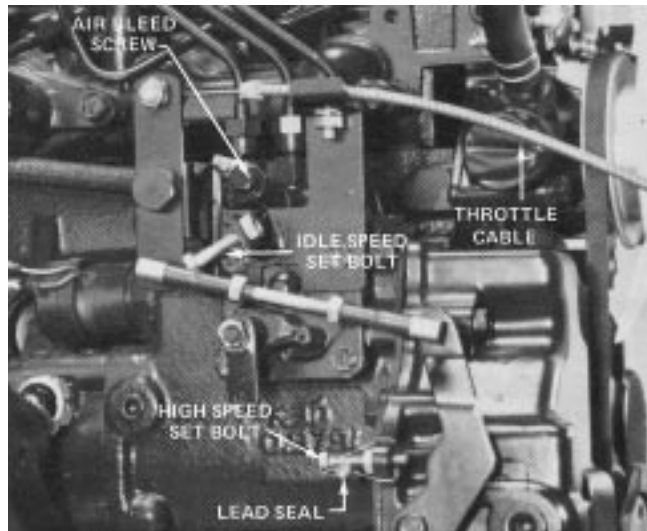

Figure 13
Engine Speed Adjustments (Fig. 13, 14)
4. Loosen the lock nut on the high speed set bolt (Fig. 13) and adjust maximum engine speed to setting "A" by rotating the high speed set bolt. Tighten lock nut after adjusting.
4. Loosen the lock nut on the low speed set bolt (Fig. 13) and adjust idle speed to 1500 \pm rpm by rotating the low speed set bolt. Tighten the lock nut.